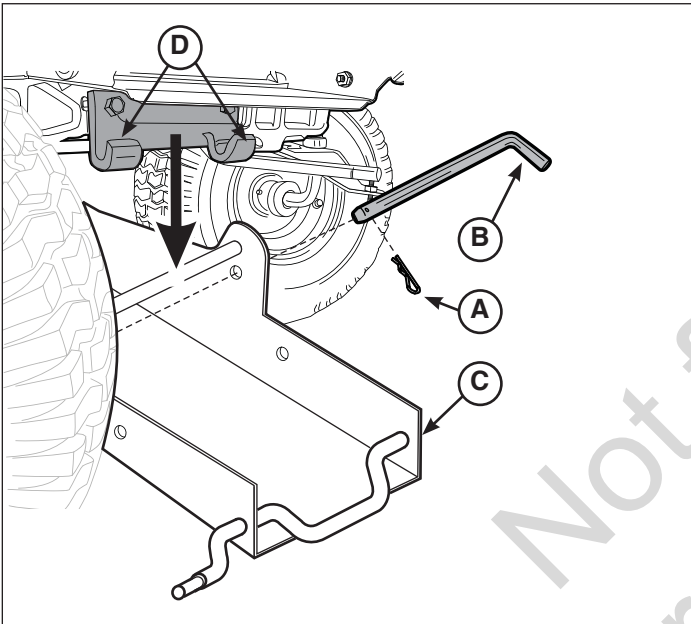

Figure 25
7. Remove the hair pin (A, Figure 25) and slide the latch rod (B) out from the reach (C).